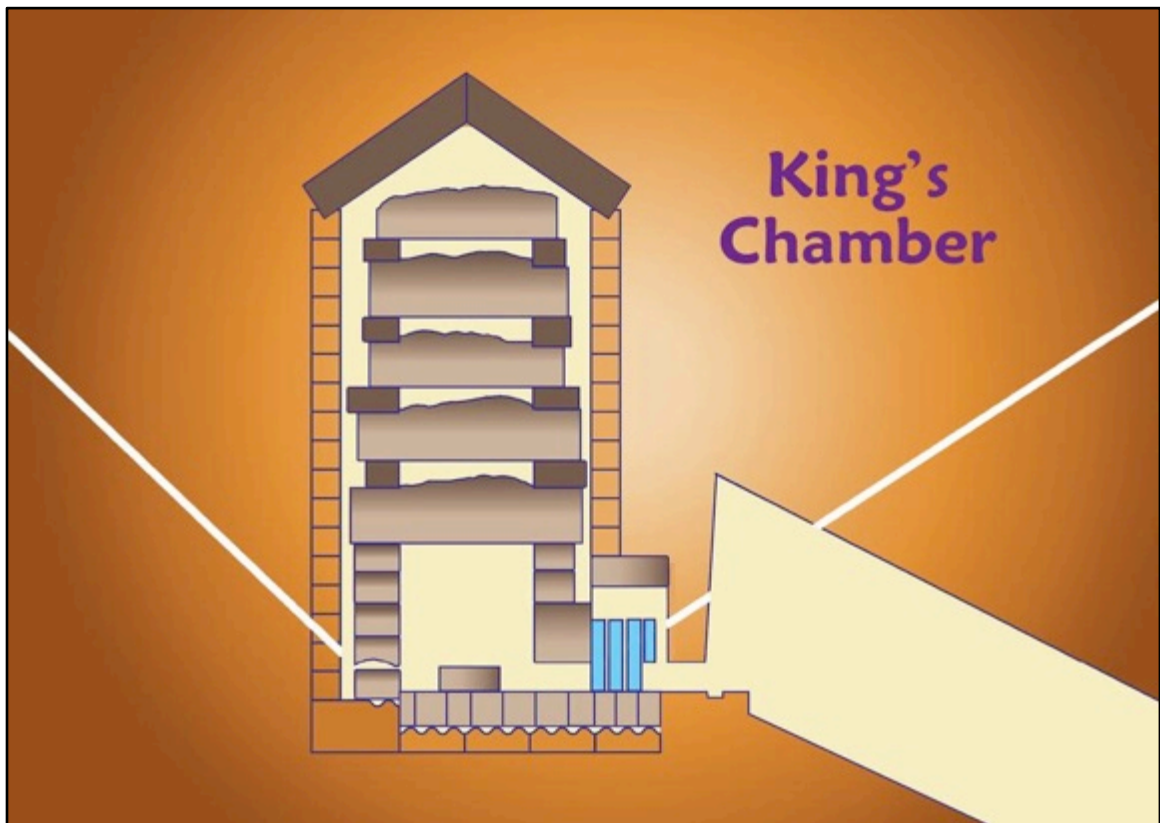

Figure 7. King's Chamber
The King's Chamber is a key focal point of the interior of the pyramid and is located about 175-feet above grade level. As there are multiple interconnected workings of the King's Chamber, refer to Figure 7 as we summarize the noteworthy construction and components:
- The result of the complete use of red Aswan granite in the King's Chamber and Grand Gallery components are thousands of tons of red granite that were capable of resonating in harmony with the fundamental frequency of the Earth, the dominant F# chord. Remember that the entire King's Chamber components are purposely freestanding from the surrounding limestone masonry in the pyramid (see Figure 7)